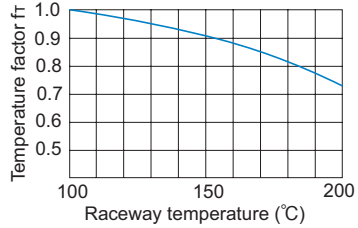

Fig.1 Temperature Factor (f_t)
- f_T : Temperature factor (see Fig.1 on A-627)
If the temperature of the environment surrounding the operating Flat Roller exceeds 100 °C , take into account the adverse effect of the high temperature and multiply the basic load ratings by the temperature factor indicated in Fig.1.